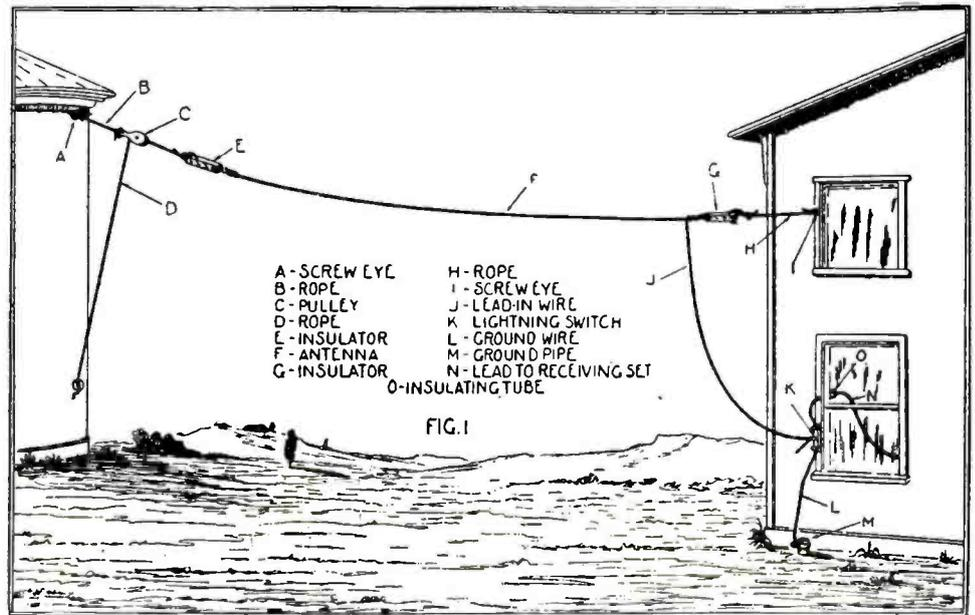

FIG. 1
The tuning coil is what is known as a two slide tuning coil and is made of a cardboard tube, wound with about 250 turns of No. 22 wire. The tube is then fastened to two square pieces of wood, which has two copper or brass rods, about one-fourth inch square, fastened to it. Two sliders are then made of brass bent to fit around the square rod and soldered at the place indicated in Figure 1.
Figure 1 on following page
In figure 1, "A," is the cardboard tube. "B" shows the round wooden discs which fit inside the tube and allow the tube to be firmly fastened to the square blocks, "C" which holds the whole coil in an upright position so that it can be operated readily. "D" shows the method of making the sliders. In figure 2, the complete coil may be seen with both sliders shown, and all instruments in place.
tenna should not be less than 30 feet above the ground and its length should be about 75 ft. (See Fig. 1.) While this figure indicates a horizontal antenna, it is not important that it be strictly horizontal. It is in fact desirable to have the far end as high as possible. The “lead-in” wire or drop-wire from the antenna itself should run as directly as possible to the lightning switch. If the position of the adjoining buildings or trees is such that the distance between them is greater than about 85 ft., the antenna can still be held to a 75 ft. distance between the insulators by increasing the length
Details of Parts.—The parts will be mentioned here by reference to the letters appearing in Figs. 1 and 2.
E and G are two insulators which may be constructed of any dry hard wood of sufficient strength to withstand the strain of the antenna; blocks about $1\frac{1}{2} \times 2 \times 10$ in. will serve. The hole should be drilled as shown in Fig. 1 sufficient
F is the antenna about 75 ft. between the insulators E and G. The wire may be No. 14 or 16 copper wire either bare or insulated. The end of the antenna farthest from the receiving set may be secured to the insulator (E) by any satisfactory method, being careful not to kink the wire. Draw the other end of the antenna wire through the other insulator (G) to a point where the two insulators are separated by about 75 ft., twist the insulator (G) so as to form an anchor as shown in Fig. 1. The remainder of the antenna wire (J) which now constitutes the "lead-in" or drop-wire should be just long enough to reach the lightning switch.
conductor to ground, except M, Fig. 1. If there are no water pipes nor radiators in the room in which the receiving set is located, the wire should be run out of doors and connected to a special "ground" below the window, which shall not be the same as the "ground" for the lightning switch. It is essential that for the best operation of the receiving set this "ground" be of the very best type. If the soil near the house is dry it is necessary to drive one or more pipes or rods sufficiently deep to encounter moist earth and connect the ground wire to the pipes or rods. This distance will ordinarily not exceed 6 ft. Where clay soil is encountered this distance may be reduced to 3 ft., while